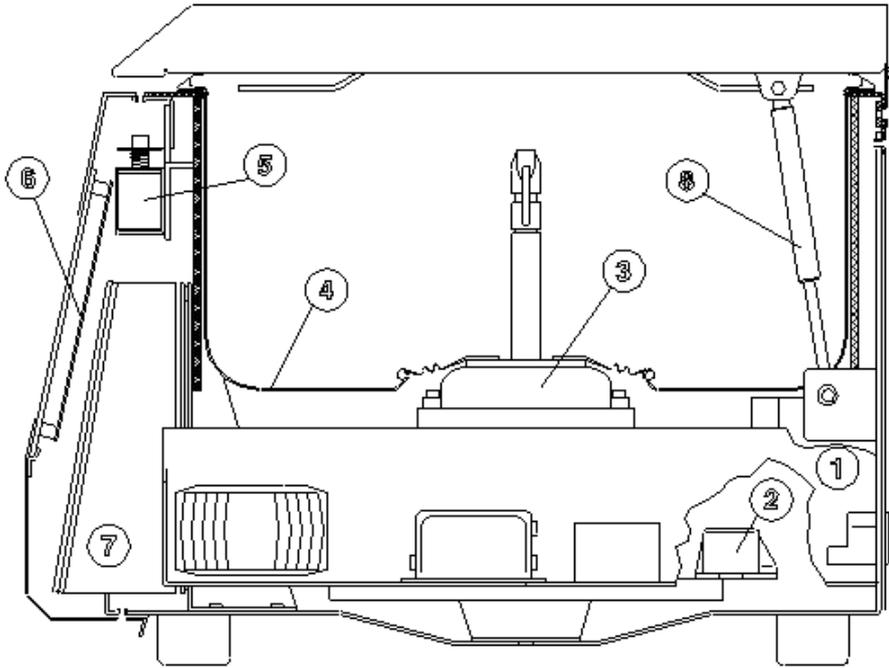

Fig. 2
- μ P + PWR board (equipped with 16bit micro-controller) located behind the front panel (see Fig.2, n.⑦).
The imbalance sensor is fixed on motor counterweight trough elastic suspension (see Fig. 2, number ②); it detects motor vibrations (usually caused by improper rotor load).